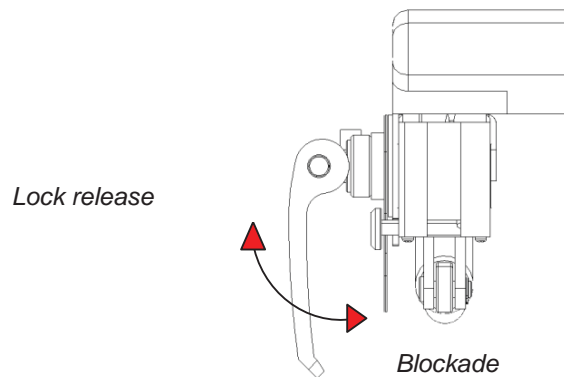
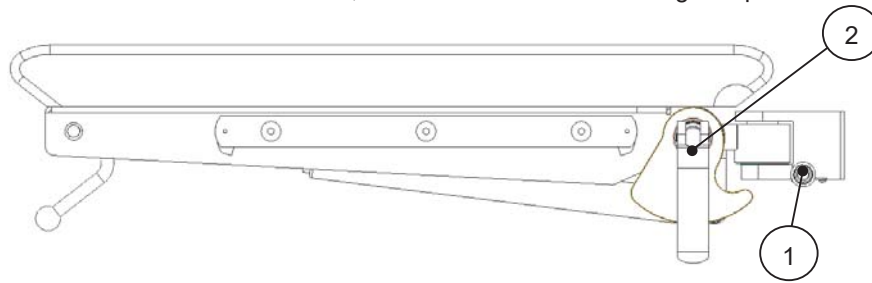

Fig. 6. Changing the footrest angular position
Fig. 9 Operating table leg rest segment
The opening angle of leg rest segments can be adjusted within the range specified in the technical data by unlocking (lifting) the lever (Fig. 9, item 2). After setting the required angle of the leg rest segment (within the range specified in the technical data), move the lever downwards to its end position, towards the leg rest frame (Fig. 6).